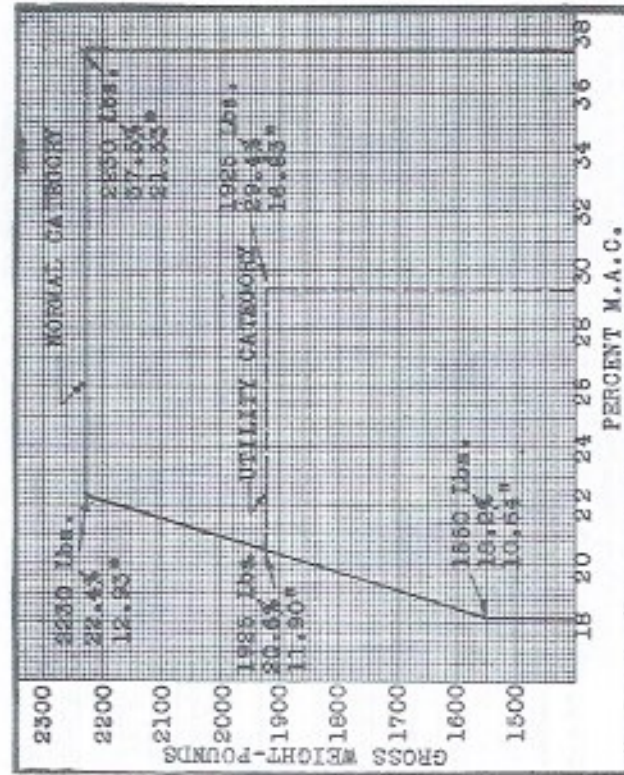

Figure 17 - Center of Gravity Limits
1. The center of gravity location for any given gross weight must be within the limits shown on Figure 17. To convert figures for percent MAC into inches wing chord, multiply percent MAC by 55.50 and add .52 inches to this product. Wing leading edge is the reference line from which the center of gravity is located.